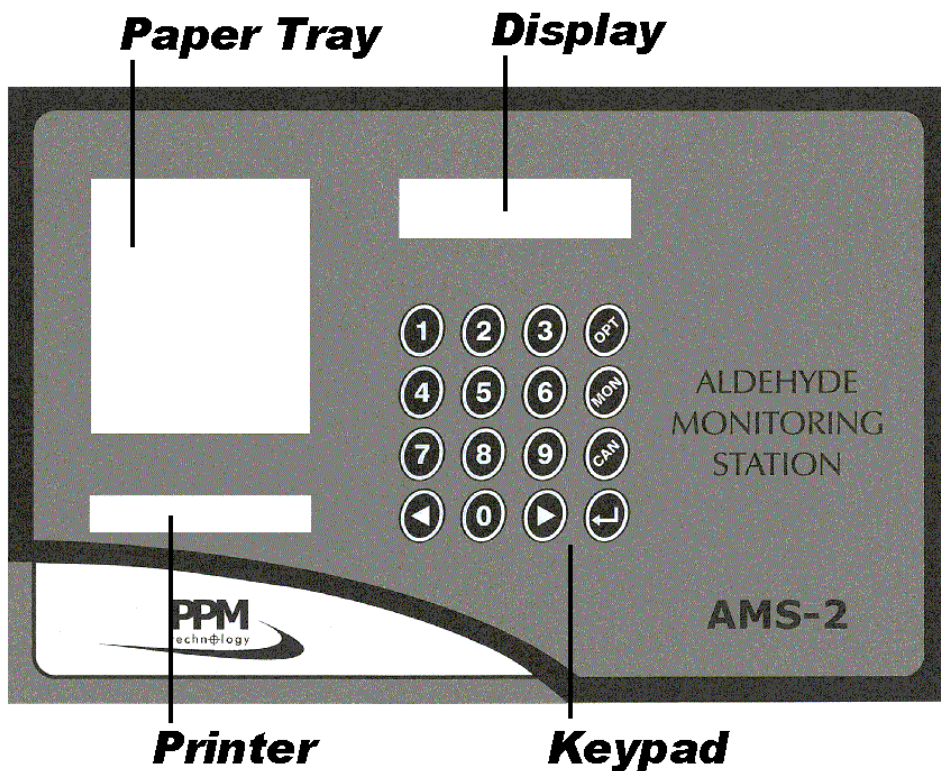

Fig 1.2 AMS-2 Fascia Panel
- Fascia Panel** The fascia panel of the AMS-2 (Fig 1.2) is protected by a membrane overlay that incorporates a keypad for controlling and adjusting the unit's functions. This makes the unit particularly hygienic and easy to clean and suited for use in a wide range of environments.